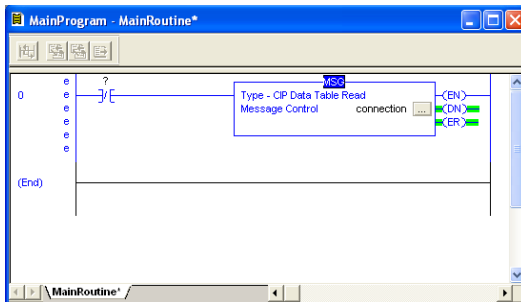

Figure 56: MainRoutine
- e) Click "OK" to close the MSG Configuration dialog. At this stage, MainRoutine should look like Figure 56.